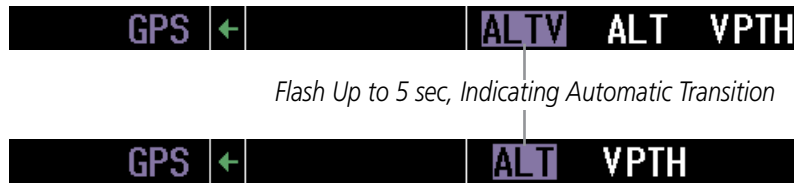

Figure 7-17 VNV Altitude Capture
- VNV Target Altitude Capture (see Figure 7-17)